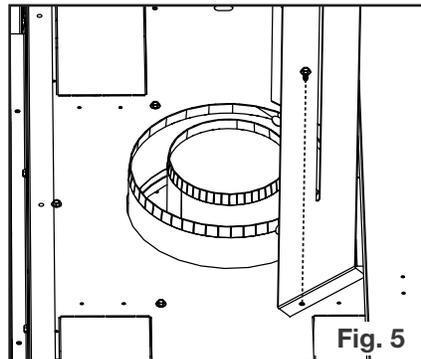

Fig. 5
- 5. Ensure both ends line up and secure ends with clip and fasteners (Fig. 5).
5. Use the fasteners in step 4 to secure the vent shield to the appliance (Fig. 5).